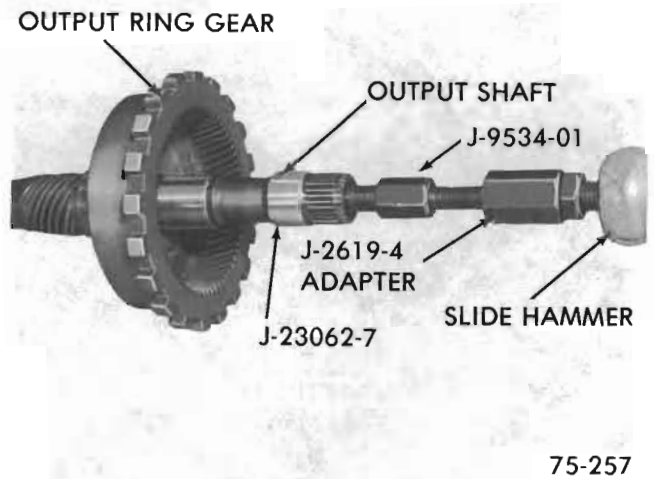

Figure 75-115
a. Assemble J-9534-01 into Adapter J-2619-4 and assemble to Slide Hammer J-2619. Thread assembly into bushing. Clamp slide hammer into vise, grasp output shaft and remove bushing. See Figure 75-115.